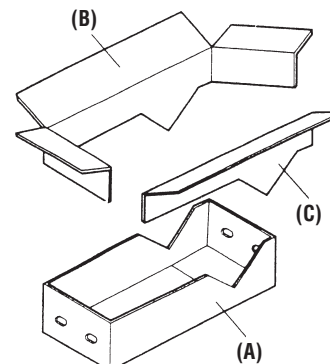

Figure 6-3
5. Cut the remaining portion (BC) into portion (B) and portion (C) according to cutting line. See Figure 6-3.